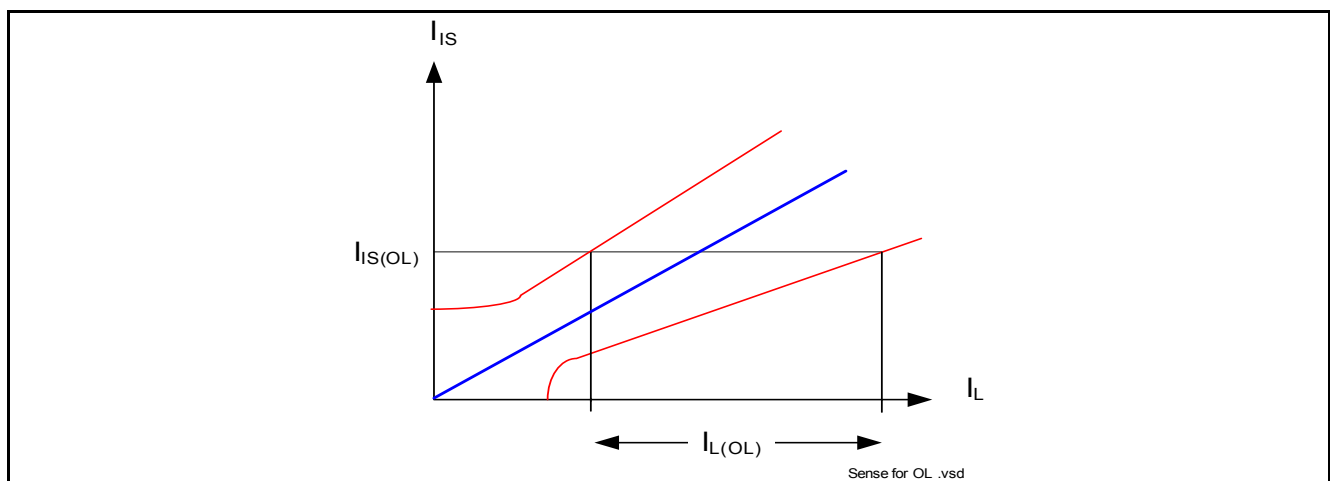

**Figure 22 Current Sense Settling / Disabling Timing**
**Figure 22** shows the timing during settling and disabling of the SENSE.